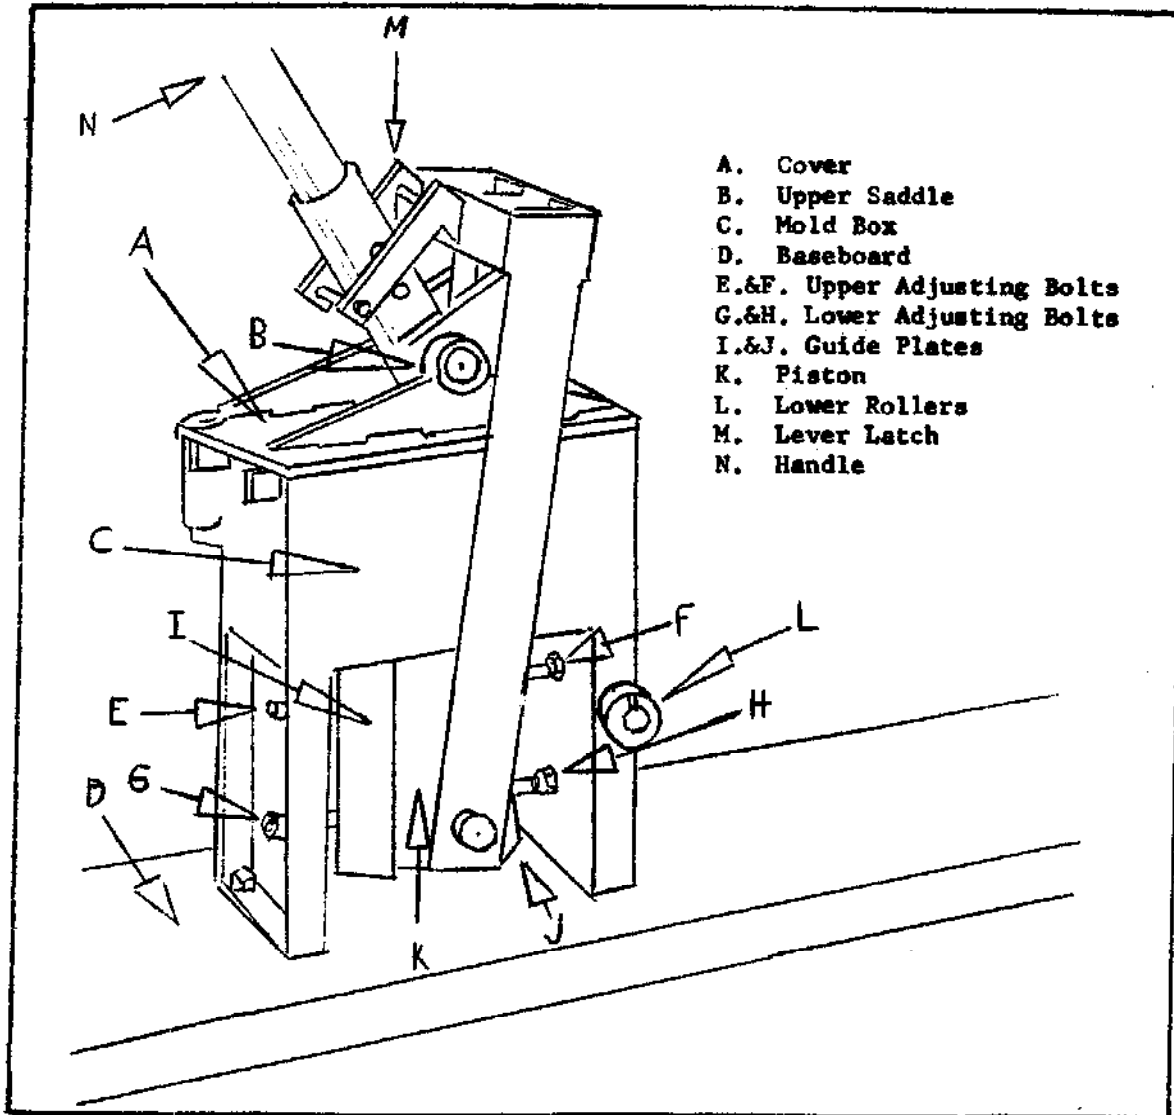

Fig. 1 - The CINVA-Ram Block Press and its Parts.
2. **The Press** The CINVA-Ram Block Press is a simple, low-cost, portable machine for making building blocks and tiles from common soil (see Fig. 1). The press, made entirely of steel, has a mold box in which a hand-operated piston compresses a slightly moistened mixture of soil and cement or lime. (An equipment list is on page 3.)